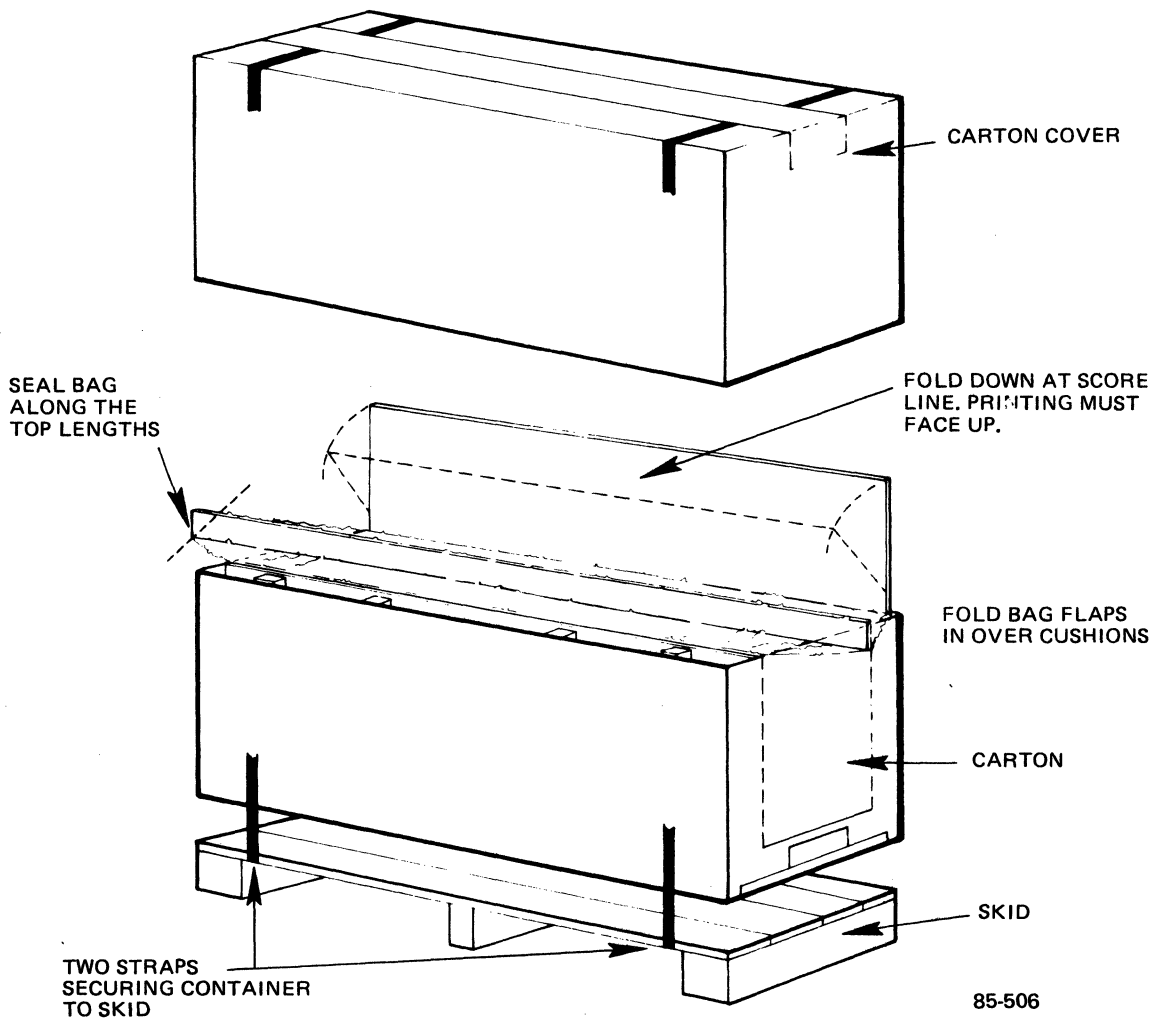

Figure 4-6. Closing the Shipping Carton
16. If present, slide the printed cardboard insert down between the bag and the carton (see Figure 4-6). Fold it at the crease so that the printed side is lying face up on the bag.
17. Place the top cover on the shipping carton (see Figure 4-6).